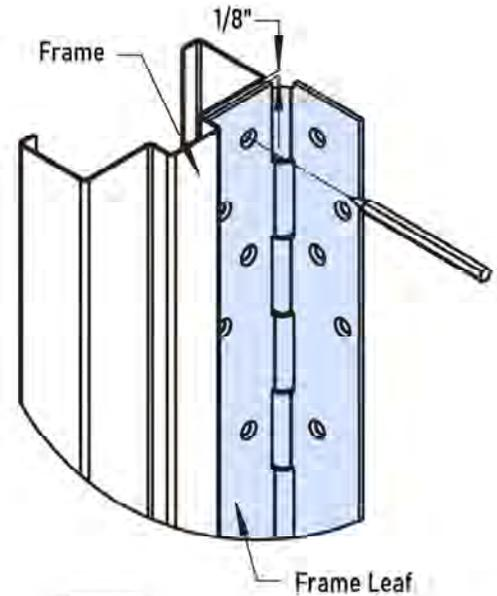

Fig. 1
- A. Place the hinge frame leaf on the frame. Position the top of the hinge 1/8" maximum below the header as shown (Fig.1). Place the hinge firmly against the rabbet of the frame.